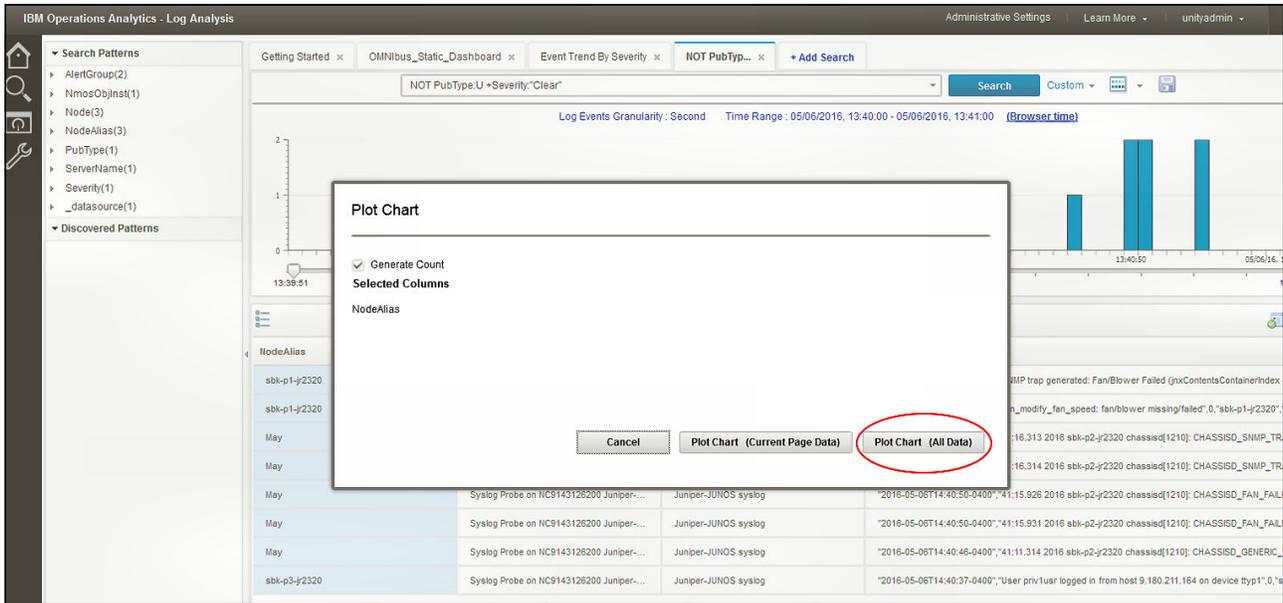

Figure 7-9 Generating plot with all data chart
14. She makes sure that Generate Count option is selected and then chooses the **Plot Chart (All Data)** button, as shown in Figure 7-9 on page 140.